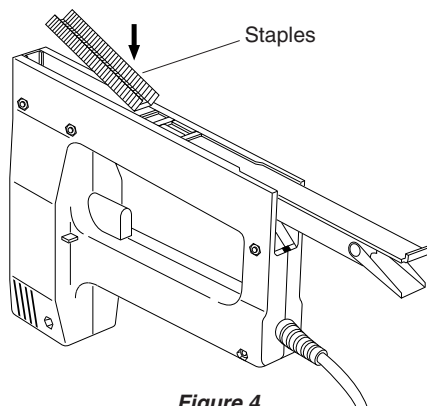

Figure 4
- Drop staples in channel (see Figure 4).